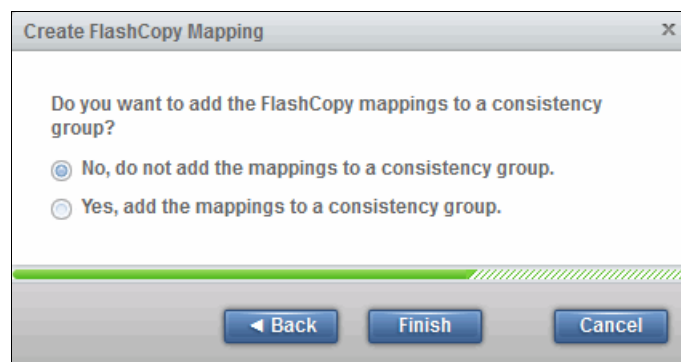

Figure 10-48 Choosing whether to add the mapping to a consistency group
- In the next window, you are asked if the new mapping is to be part of a consistency group, as shown in Figure 10-48. In this example, the new mapping is not part of a consistency group, so click **No** and then **Finish** to create the mapping.